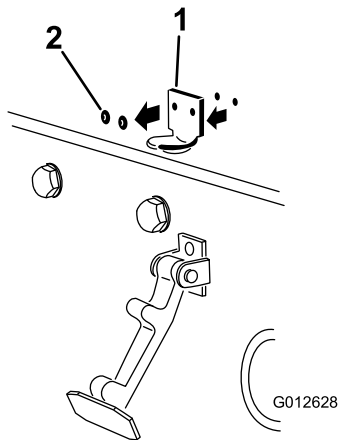

Figure 12
2. Remove the (2) rivets securing the hood-latch bracket to the hood (Figure 12) and remove the hood-latch bracket from the hood.